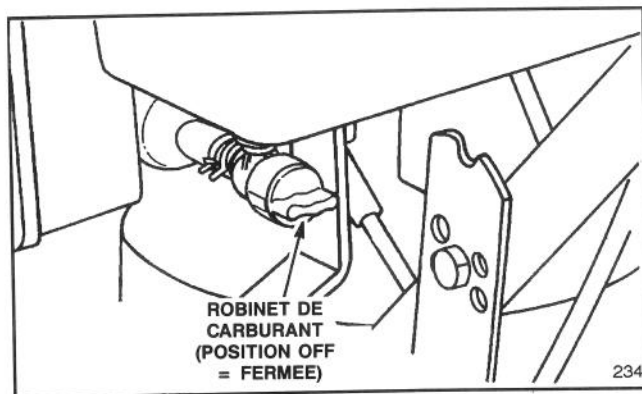

Figure 12
2. Fermez le robinet de carburant (position OFF, figure 12).